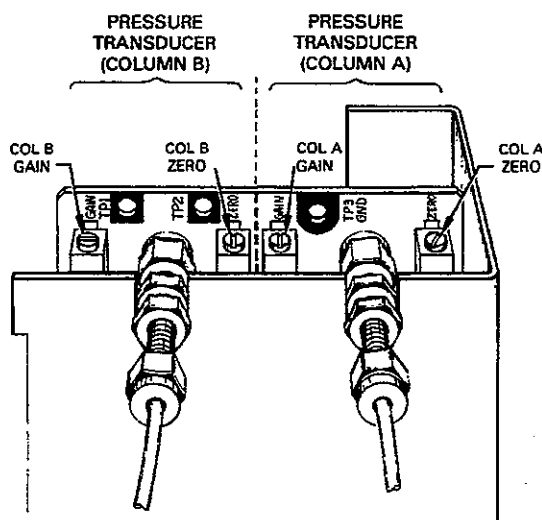

Figure 11 Dual Pressure Transducer
10. Set the digital voltmeter to a range that brackets 3.906V. To calibrate the Column A pressure, connect the hot (red) lead to Test Point 2 (TP2) and attach the ground (blk) to TP3. [Use TP1 (red) and TP3 (blk) for Column B.] The test points are metal coated holes in the AutoSampler/External Events PC Board (see Figure 11).
Use a Swagelok® Tee fitting to attach an accurate pressure gauge onto the pressure transducer output (see Figure 11).